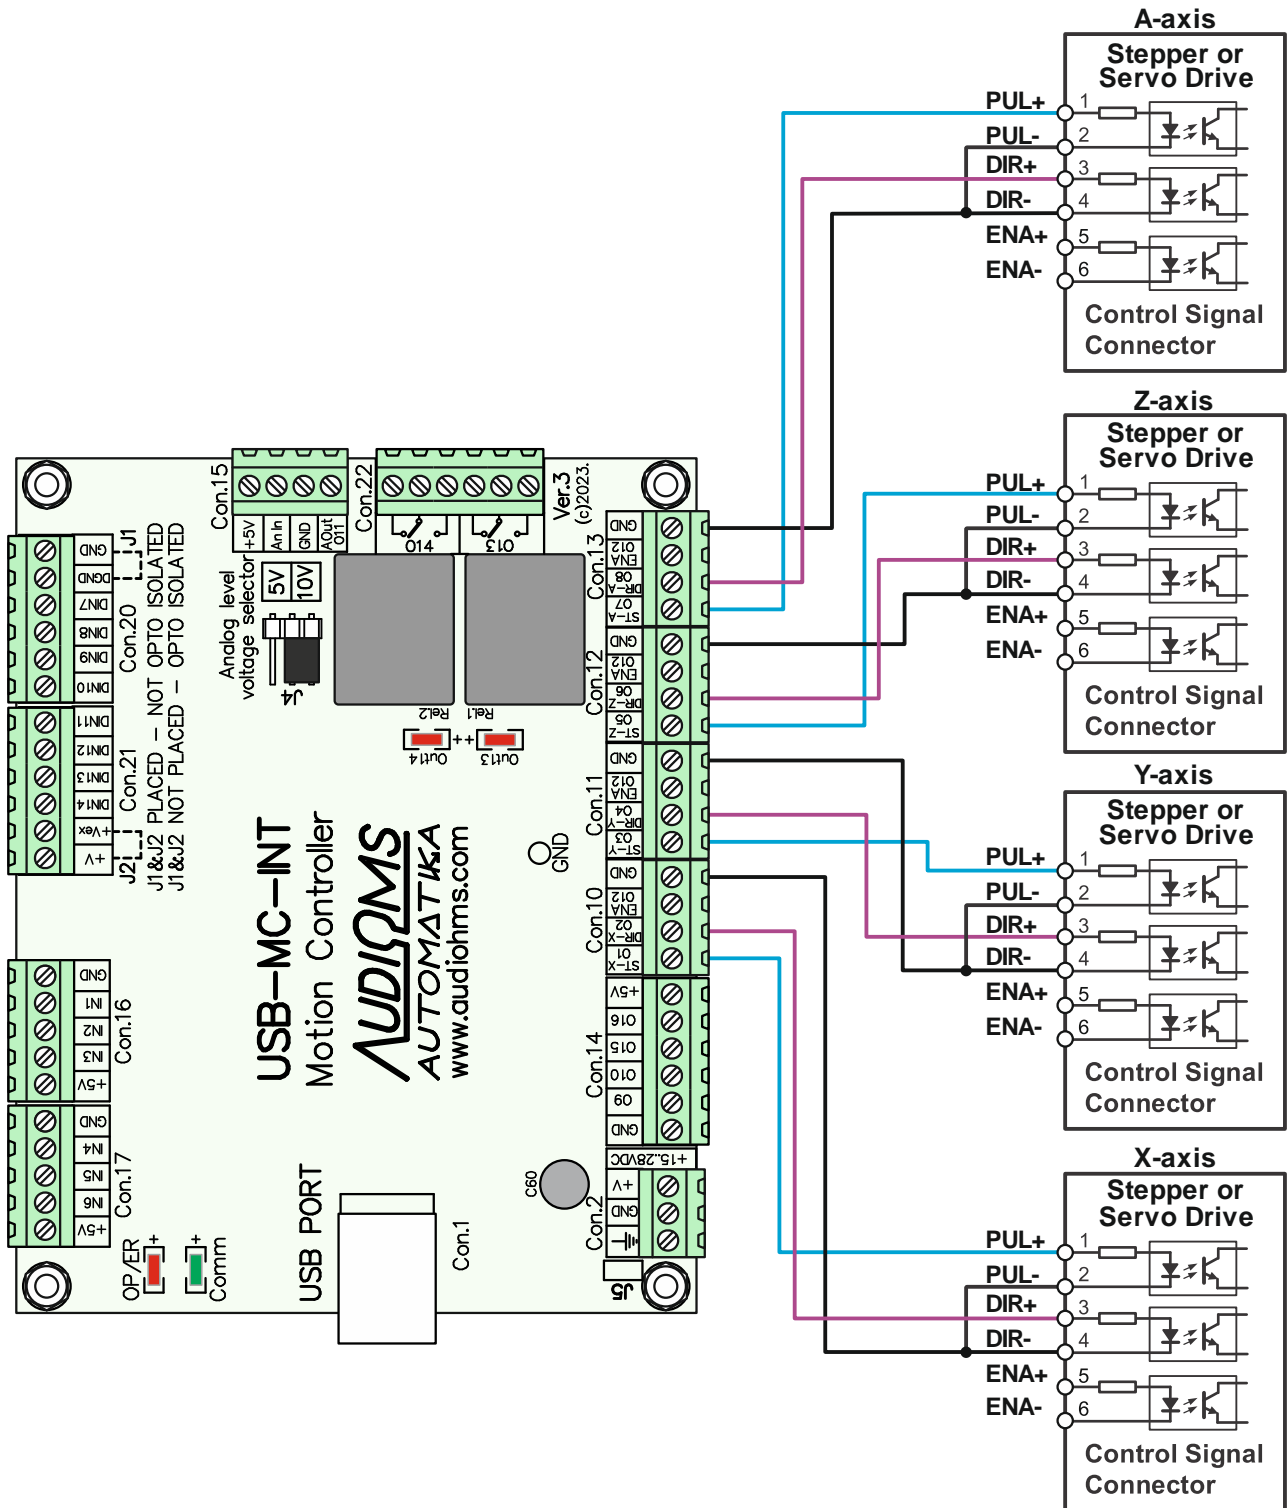

Figure 8.8 Connecting drivers from other manufacturers in the case of inverted logic on ENABLE input
- Some drivers from other manufacturers have inverted ENABLE pin logic. USB-MC-INT motion controller can't support this and in that case **don't connect** ENA+ and ENA- lines (Figure 8.8). That way the driver will always be active.